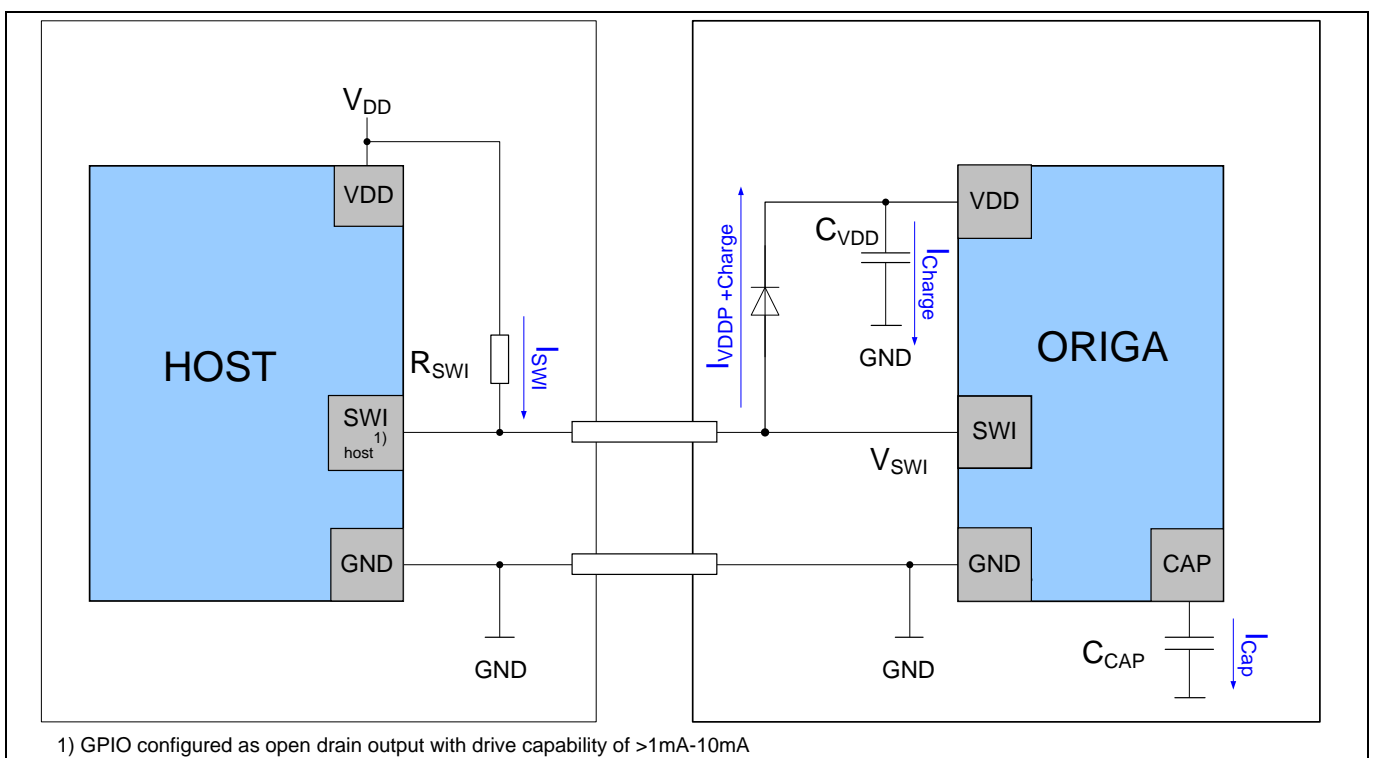

Figure 2 System Building Blocks of SLE95050H – Indirect Powered via Single Wire Interface.
- For Single-Wire-Interface powered mode (indirect power) the communication line has to be connected via pull-up to at least 3V (see V_{DD} in figure 2)